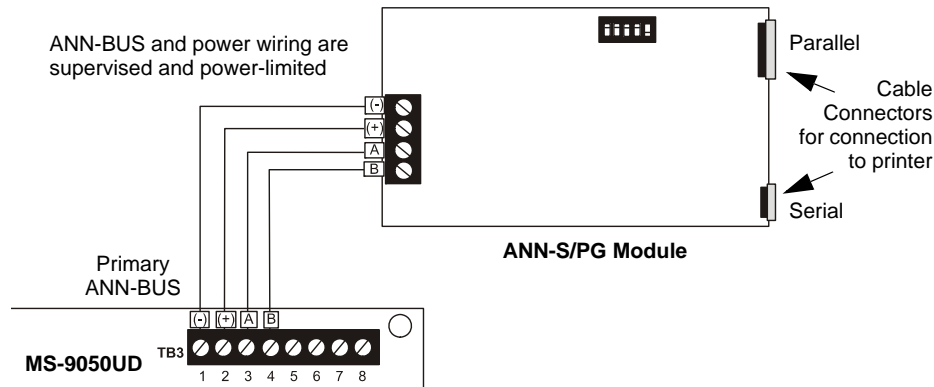

Figure 2.16 ANN-S/PG Connection to FACP
2. Connect the ANN-S/PG to the FACP as illustrated in Figure 2.16.
5. Connect a printer to the ANN-S/PG Parallel or Serial connectors (refer to Figure 2.16). Only one printer can be connected.